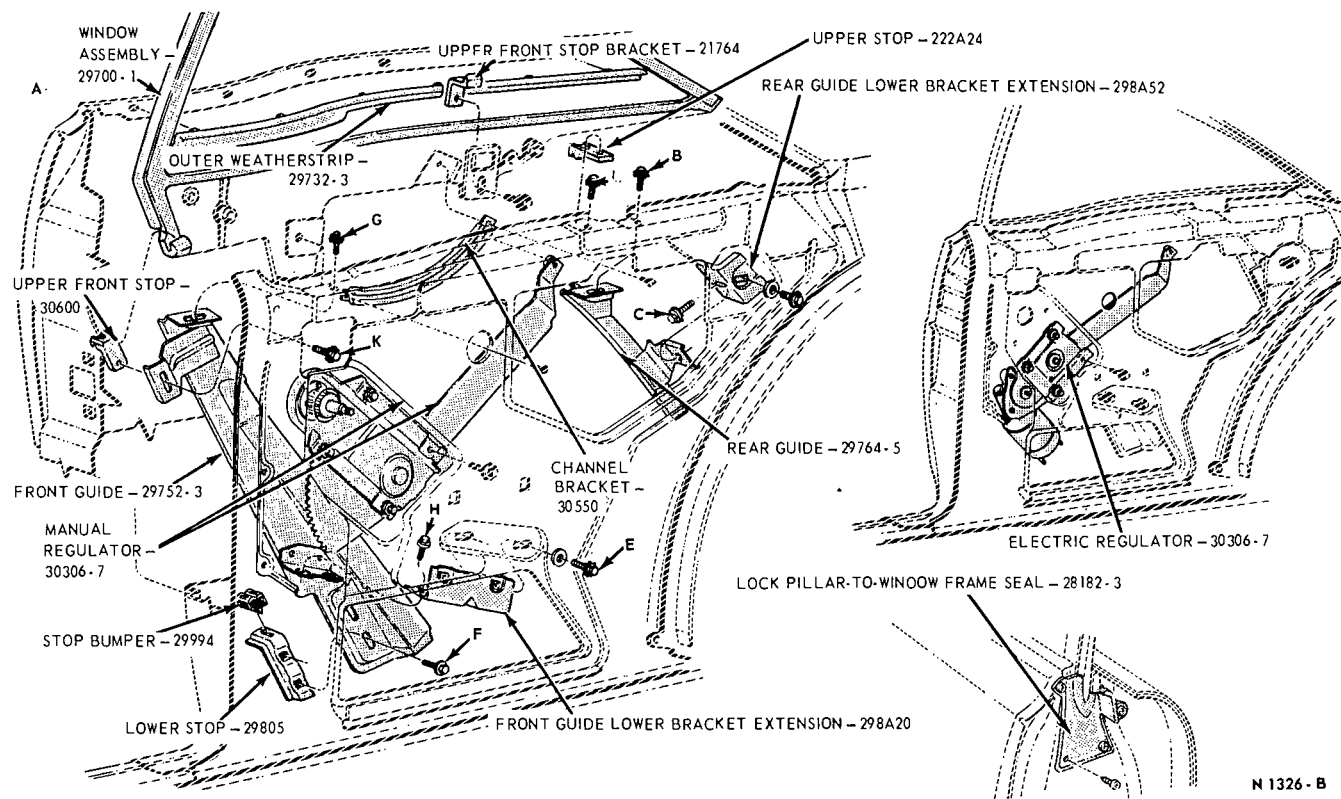

FIG. 8—Quarter Window Mechanism—Fairlane and Mercury Intermediate—Model 63
and watershield to provide access. Refer to Fig. 8 for the following procedure.
2. Temporarily loosen screw and washer assemblies A, B, C, E, F, G, H, K, and L (Fig. 8).